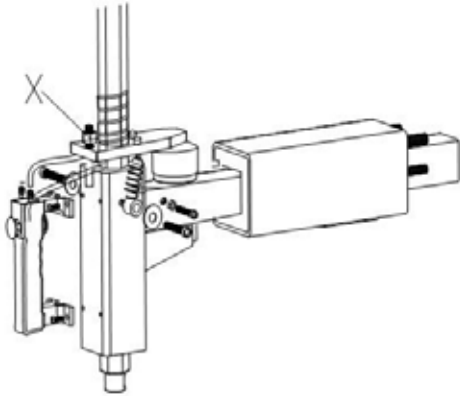

Figure 22
If hexagonal vertical arm not be locked or not meet the requirement that 2-3 mm from the bottom of mounting/demounting head to rim, please adjust hexagonal locking plate, refer to figure 22 below and adjust the (X).